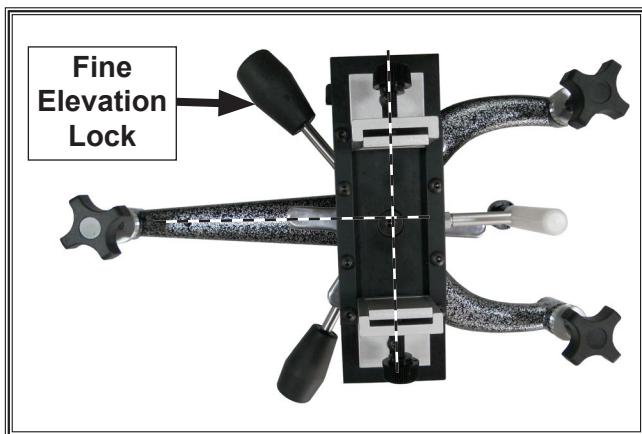
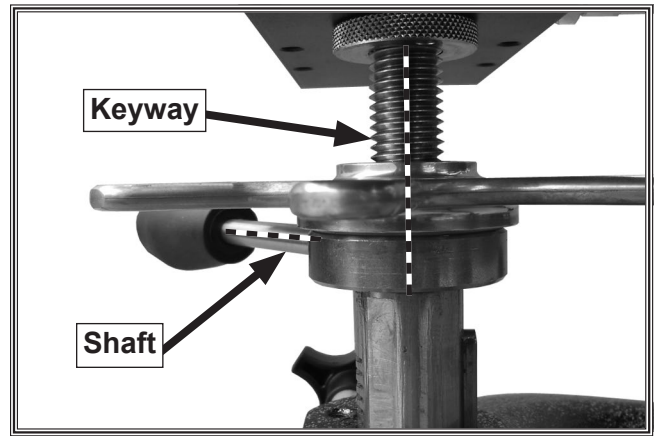

Figure 4. Cradle positioned perpendicular to base.
Figure 5. Keyway aligned with fine elevation lock knob shaft.
2. Position cradle perpendicular to base (see **Figure 4**). Align keyway with fine elevation lock knob shaft, then tighten knob (see **Figure 5**).